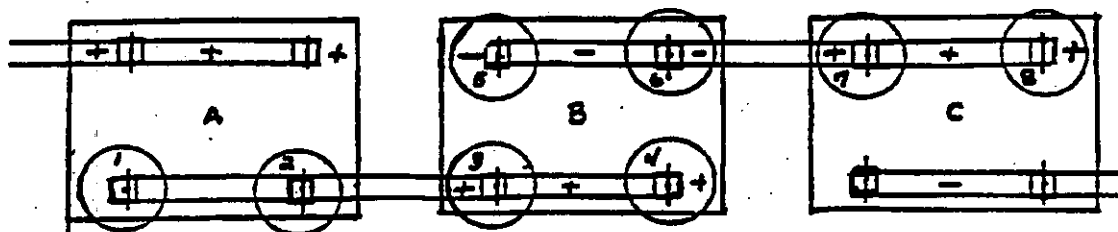

Figure 1
4. Using Figure 1 as a guide only and presuming "B" is the affected cell then remove bolts and intercell connection straps from the low voltage cell and its adjacent cell terminals.